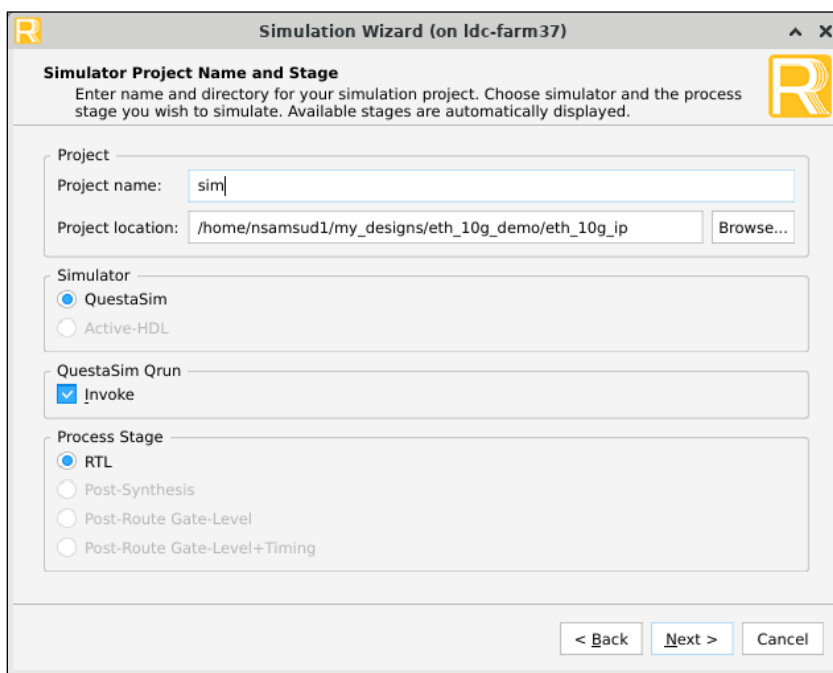

Figure 7.6. Simulation Wizard
1. Click the  button located on the **Toolbar** to initiate the **Simulation Wizard**, as shown in Figure 7.6.